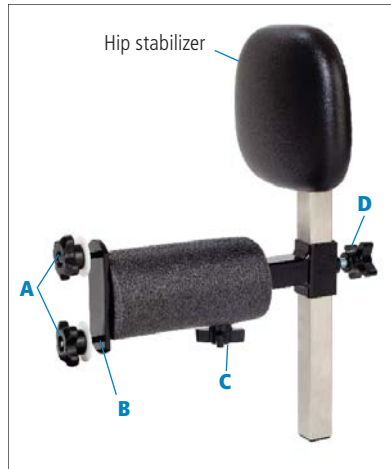

Figure 13b
**E930 & E940** (see Figure 13b)